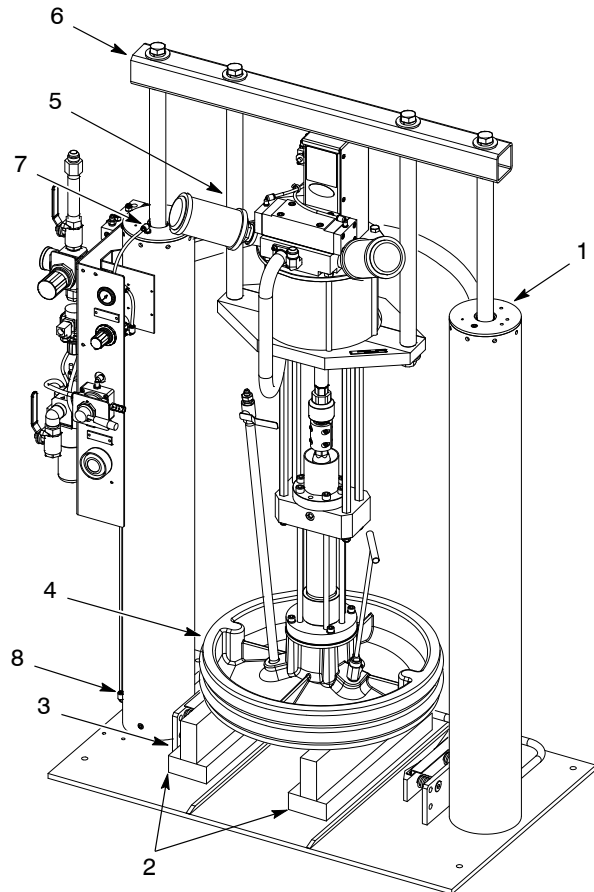

Figure 1 Blocking the Follower Plate
1. See Figure 1. Use blocks (2) to block the follower plate (4) high enough to keep it from contacting the drum hold down shoes (3). Make sure that the follower plate/air motor assembly is secure to prevent it from tipping.
2. Remove any device or bracket that is installed to the top of the cylinder heads (1), mounting rods (5), and crossover (6).